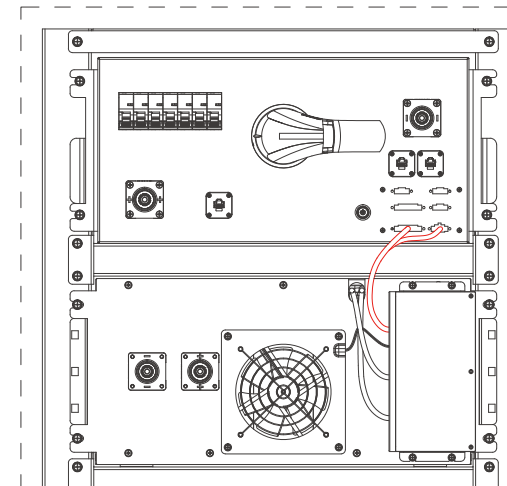

Figure 2.6
(2) Connect the BMU communication port of the main control box with first battery's BMU box, Connect the BMU Fan Power cable to BCU (BMU-FAN 24V) port accordingly (Figure 2.6).